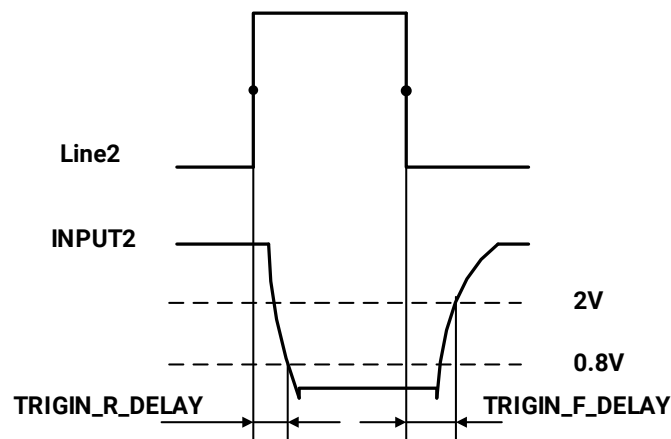

Figure 7-9 Parameter of Line2 input circuit
- Input rising time delay: $<2\mu\text{s}$ ($0^{\circ}\text{C}\sim 45^{\circ}\text{C}$), parameter description as shown in Figure 7-9
- Input falling time delay: $<2\mu\text{s}$ ($0^{\circ}\text{C}\sim 45^{\circ}\text{C}$), parameter description as shown in Figure 7-9